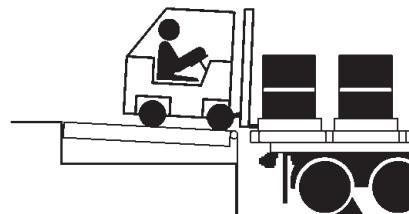

Figure 19 – End Loading/Unloading — Platform at Below-Dock Position
7. Proceed with loading or unloading (Figure 19).